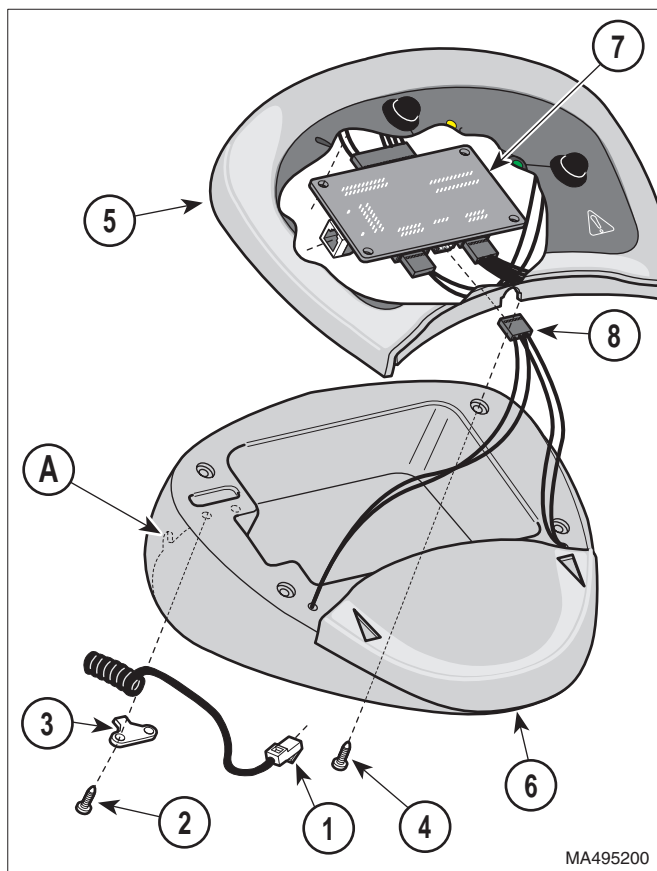

Figure 4-37. Foot Control Top Removal / Installation
- (1) Disconnect coil cord (1, Figure 4-37) from table.
- (2) Remove two screws (2) and strain relief bracket (3).
- (3) Remove four screws (4) and partially separate foot control top (5) from foot control base (6).
- (4) Disconnect coil cord (1) from PC board (7).
- (5) Disconnect wire harness (8) from PC board (7) and remove foot control top (4).